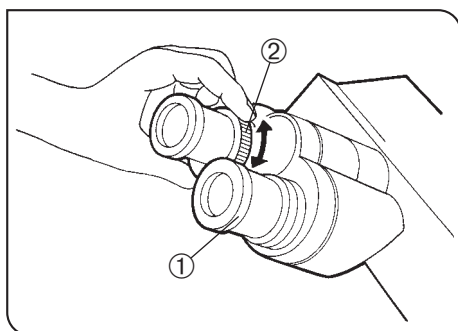

Fig. 42
6 Using Eyepieces Incorporating a Micrometer (Fig. 42)
1. Looking into the right eyepiece with your right eye, turn the top of the eyepiece ① so that the micrometer in the field of view looks sharpest (Fig. 42).
3. Looking into the left eyepiece with your left eye, rotate the diopter adjustment ring ② to bring the specimen into focus.